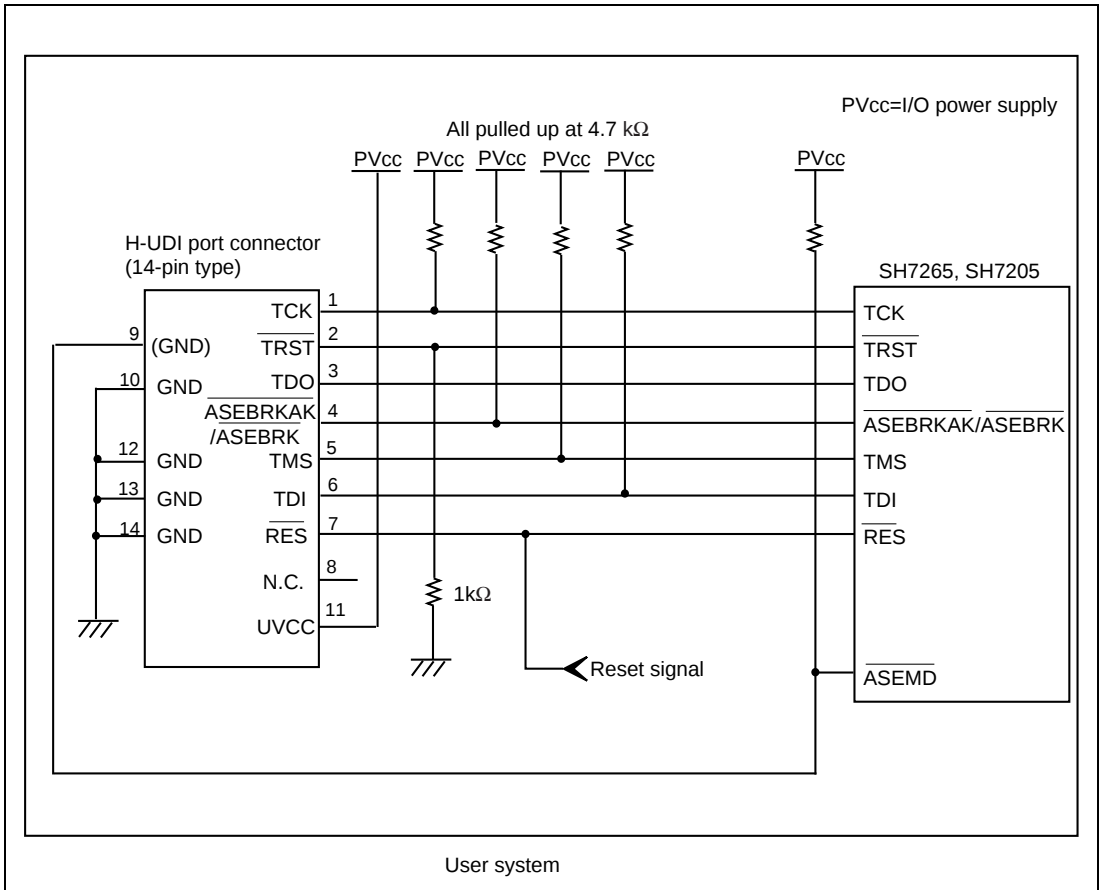

Figure 1.4 Recommended Circuit for Connection between the H-UDI Port Connector and MCU when the Emulator is in Use (14-Pin Type)
Figure 1.4 shows a recommended circuit for connection between the H-UDI port connectors (14 pins) and the MCU when the emulator is in use.
- (1) When the emulator is used: ASEMD# = 0
- (2) When the emulator is not used: ASEMD# = 1Figure 1.4 shows an example of circuits that allow the ASEMD# pin to be GND (0) whenever the emulator is connected by using the user system interface cable. When the ASEMD# pin is changed by switches, etc., ground pin 9. Do not connect this pin to the ASEMD# pin.
6. The resistance value shown in figure 1.4 is for reference.